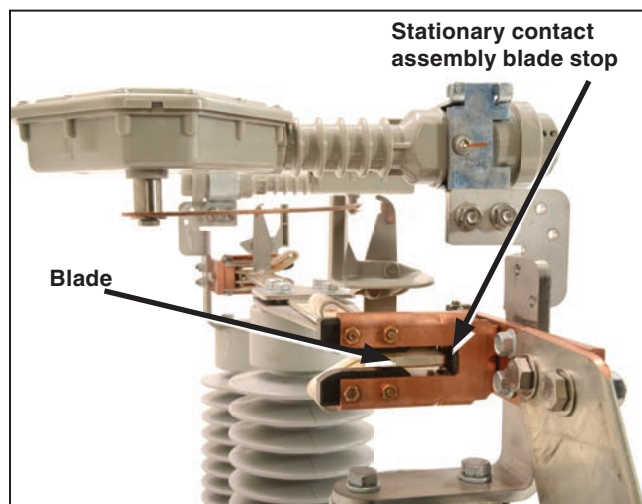

Figure 46. Check that the blade is fully closed and within  $\frac{1}{8}$ -inch of the stop on the stationary contact assembly.
- (b) With the operating handle as far as it will go in the closing direction, the blade of each switch pole is fully closed and is within  $\frac{1}{8}$ -inch of the stop on both stationary contact assemblies. See Figure 46.